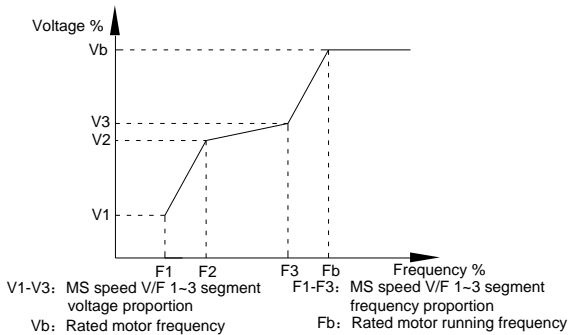

Fig. 5-4 Multi-point V/F curve setup schematic diagram
1) It must be set as follows: $V1 < V2 < V3$, $F1 < F2 < F3$. Fig.5.4 is schematic diagram for multi-point V/F curve.